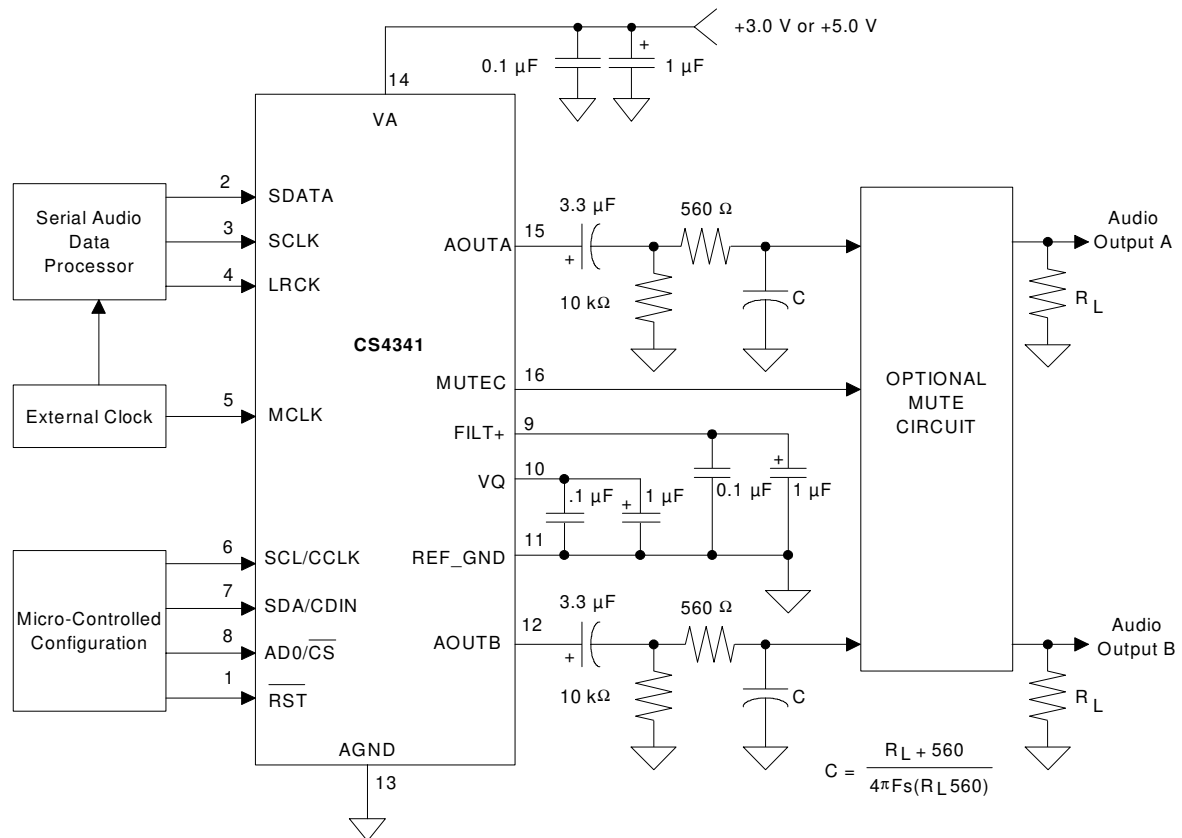

Figure 16. Typical Connection Diagram
15. Valid with the recommended capacitor values on FILT+ and VQ as shown in Figure 16. Increasing the capacitance will also increase the PSRR.
As with any high resolution converter, the CS4341 requires careful attention to power supply and grounding arrangements if its potential performance is to be realized. Figure 16 shows the recommended power arrangements, with VA connected to a clean supply. If the ground planes are split between digital ground and analog ground, REF_GND & AGND should be connected to the analog ground plane.